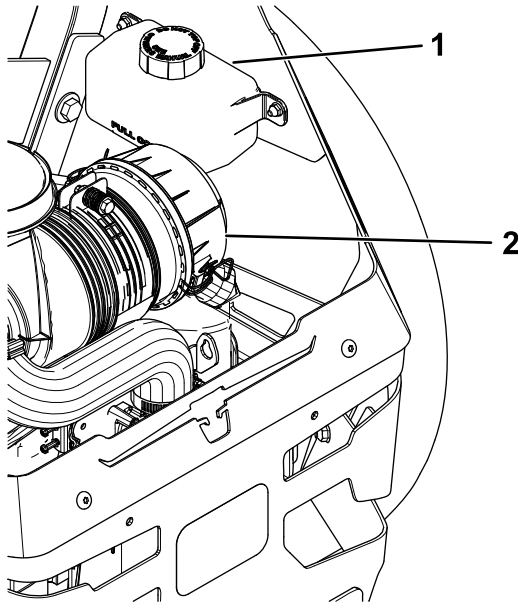

Figure 86
2. Check expansion reservoir and if necessary add Toro® HYPR-OIL™ 500 hydraulic fluid to the FULL COLD line (Figure 86).